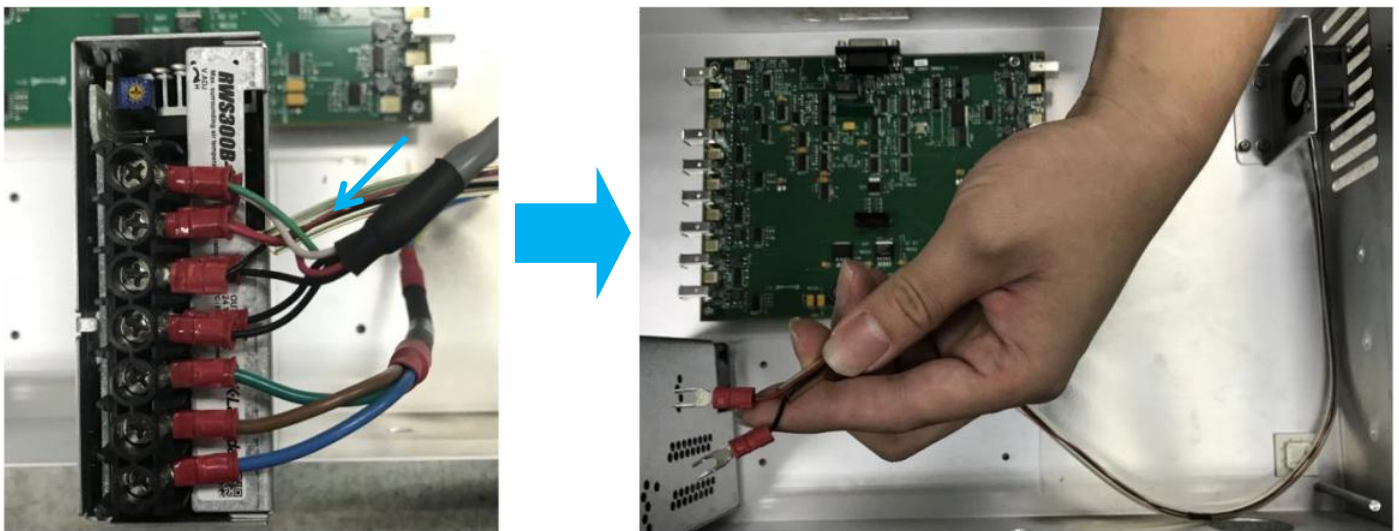

Figure 14 Ventilation Fan Power Cable Removal
16. Remove Ventilation Fan Power Cable from Trigger Board Power Supply as below Figure 14